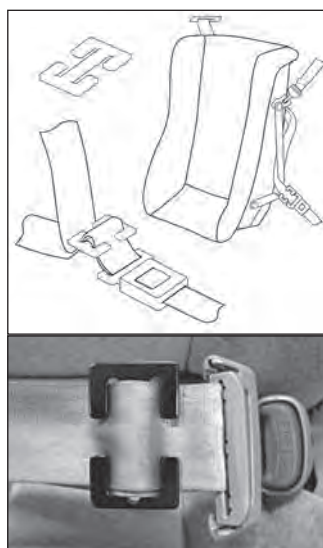

Figure 3: Combination Lap/Shoulder Belt with Locking Clip
9. Fold the webbing and thread it through the locking clip, one side at a time keeping the locking clip as close as possible to vehicle belt latch – no further than 1/2" (12mm) away. **See Figure 3.**